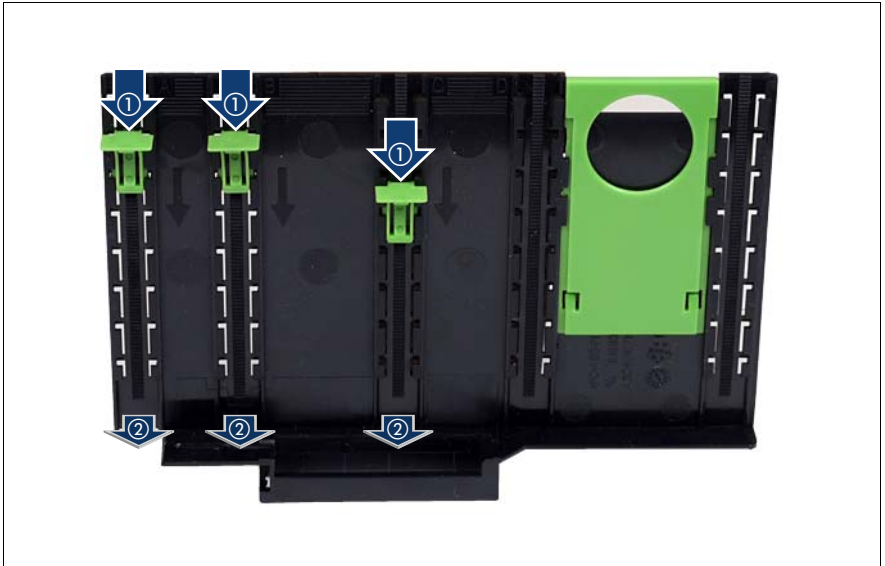

Figure 25: Removing engaging hooks from the removal tool
- ▶ Push the engaging hooks down until they disengage from the removal tool (see figure 25 on page 105), and keep them in a safe place.